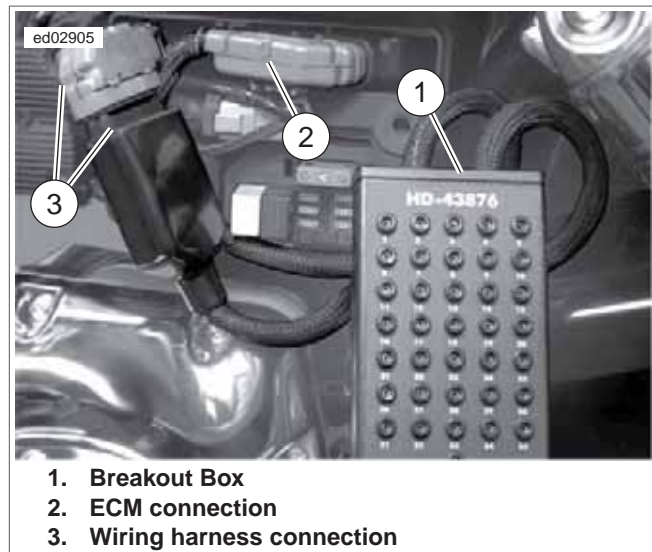

Figure 1-21. Installed Breakout Box
3. See Figure 1-21. Connect BREAKOUT BOX (Part No. HD-43876) to connectors.